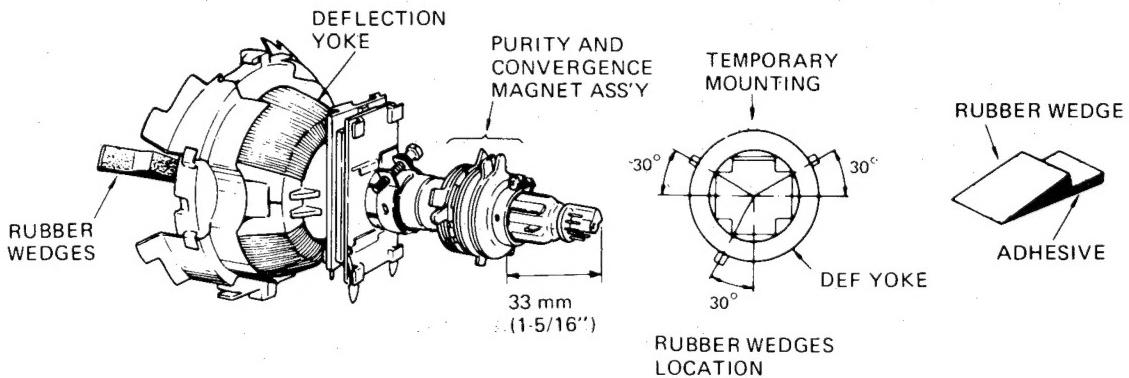

Figure 1.
6. Rotate the lock ring (See figure 1) clockwise to loosen. Rotate and spread the tabs of the purity magnet (See figure 3) around the neck of the picture tube until a green belt is obtained in the centre of the screen. And at the same time, centre the raster vertically by adjusting the magnet. After the above adjustment, rotate the lock ring counterclockwise to lock tightly.
2. Put a wedge as shown in figure 1 temporarily. (Do not remove cover paper on adhesive part of the wedge.)